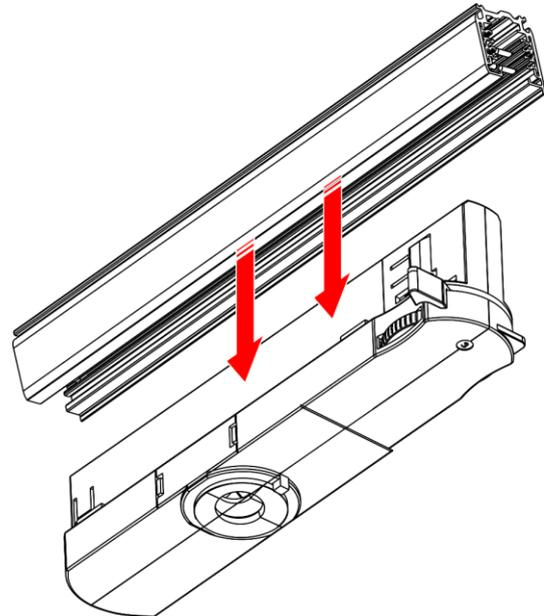

Fig. 12
- 05) Pull the **track adapter (01)** from the track (see Fig. 12).